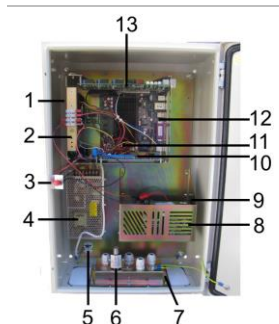

Figure 6. The SAR-100
1. Connect 220V wires to the AC connector. See Figure 6 and section 10, on page 11.